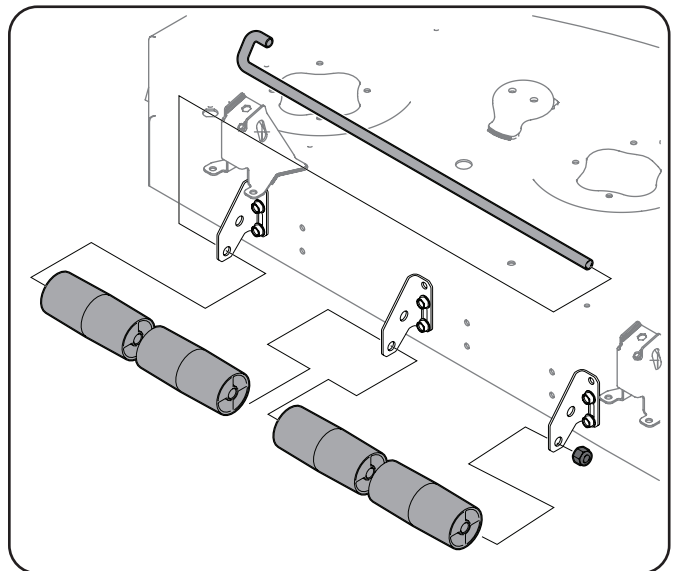

Figure 1-3
2. Align the rollers (#5) inside the brackets (2 per set of brackets) and slide the Roller Pin (#3) through the center of the rollers and into the mounting hole of the right handed Roller Bracket. See Figure 1-3.
3. Secure the end of the Roller Pin with a $\frac{1}{2}$ Lock Nut (#4). See Figure 1-3.